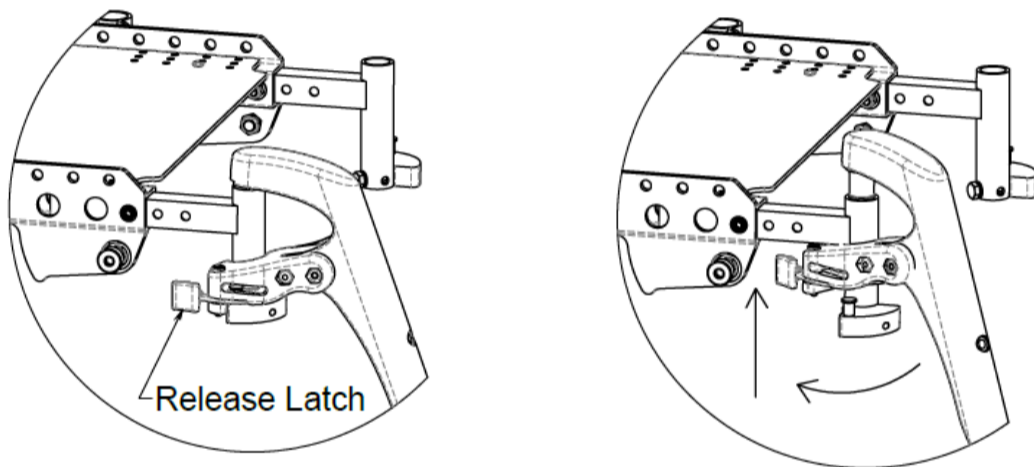

Figure 16.13: *Swing-Away Front Rigging latch Installation and Removal*
- Orient the footrest at approximately 45° outboard of the wheelchair as shown in *Figure 16.13*. **Error! Reference source not found.**
- To release the locking mechanism, push the release lever as show in *Figure 16.13*.